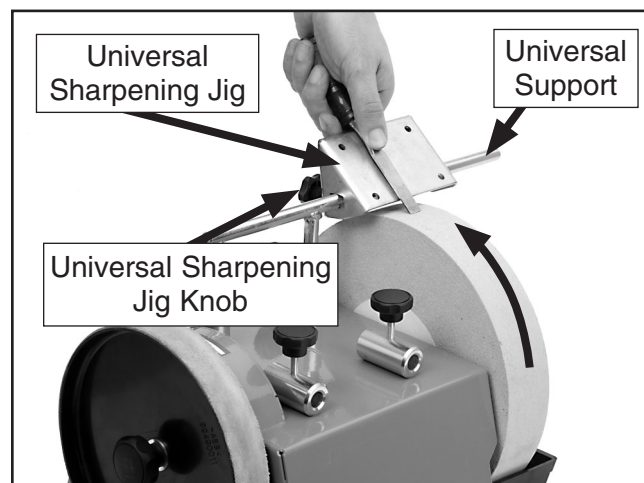

Figure 4. Universal sharpening jig.
3. Slide the universal sharpening jig onto the universal support and thread in the universal sharpening jig knobs as shown in **Figure 4**.
6. Place the workpiece onto the universal sharpening jig, as shown in **Figure 4**, then slide it onto the surface of the wheel. Use a firm grip on the workpiece, but do not use heavy pressure against the wheel. Be sure to move the workpiece back and forth across the surface of the wheel while grinding to prevent excessive wheel wear.